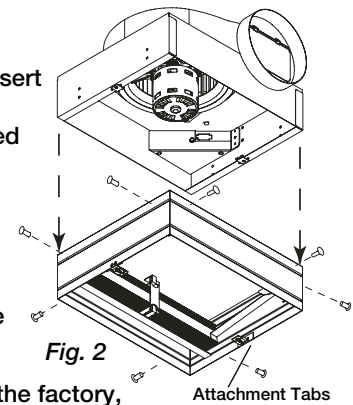
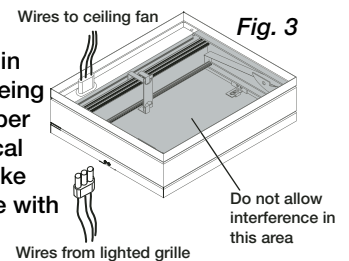

Fig. 2
Fig. 3
3. To mount the ceiling radiation damper to fan, make sure grille attachment tabs are facing down. Then place the inlet part of the fan into the ceiling radiation damper collar, and use self-tapping sheet metal screws #10x1/2 in. (by others) to screw through the damper collar and into the fan housing, shown in Fig. 2. If the fan/light combination is being used, make sure ceiling radiation damper has an electrical plug in it. The electrical plug must be inserted into the fan. Make sure the electrical wire will not interfere with damper operation, shown in Fig. 3.